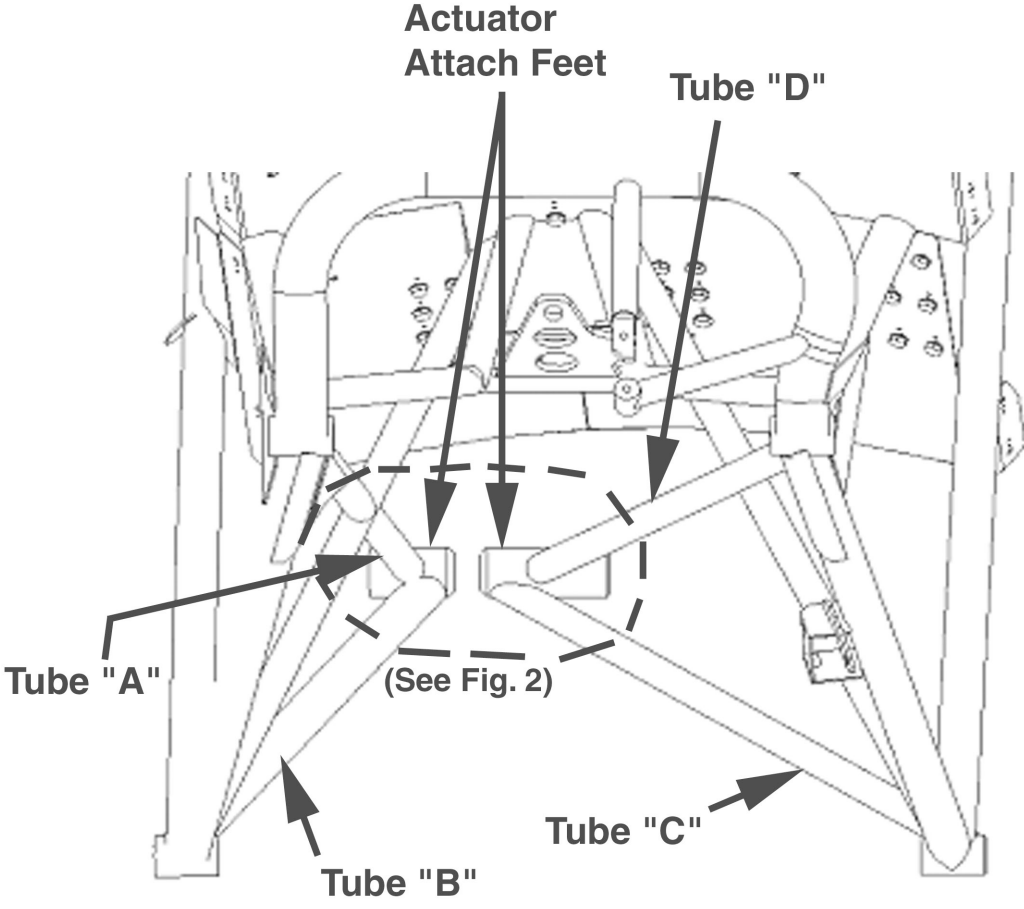
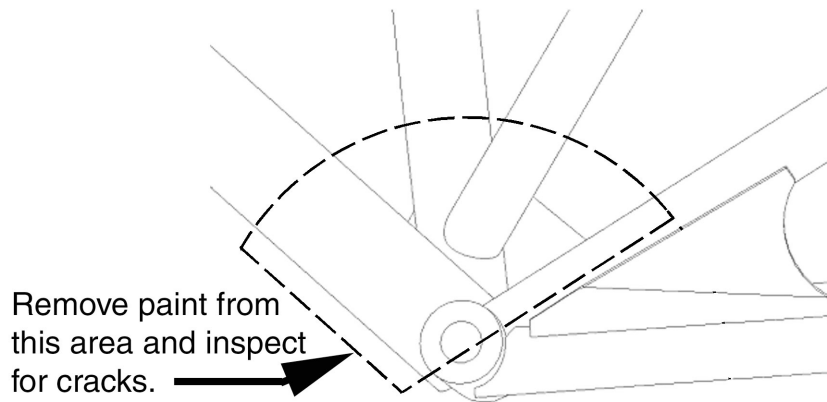
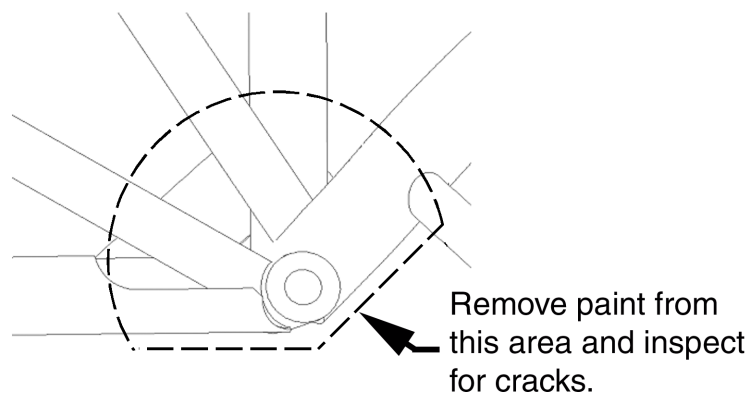

Figure 1
Figure 3
Figure 4
NOTE: This service bulletin is similar to SB1103B except this bulletin requires inspection of the adjacent tubes "A" thru "D" (Fig. 1 and 2) in addition to the attach feet. This bulletin also requires inspection of tubes shown in Fig. 3 and 4 at the left and right side nose gear pivot areas.
PURPOSE: It has been determined that cracks may develop on the engine mount in the area of the nose gear actuator attach feet (see Figure 1 and 2) and in the areas immediately outboard of the nose gear pivot points. The likelihood of this condition occurring increases when the nose landing gear is subjected to repetitive excessive loads, possibly through hard landings, rough field operations, repetitive excessive speed turns and/or improper towing of the aircraft.
1. Remove the nose gear hydraulic actuator and the nose gear assembly from the engine mount per the Aircraft Maintenance Manual, Chapter 32-20-00. Clean the engine mount actuator attach feet area including tube welds as shown in Fig. 1 and 2. Clean the inboard sides of the mount within 2 inches of the nose gear attach points as shown in Fig. 3 and Fig. 4.
3. Visually inspect the engine mount welds and the tubes as shown in Figure 1 thru 4 for cracks.